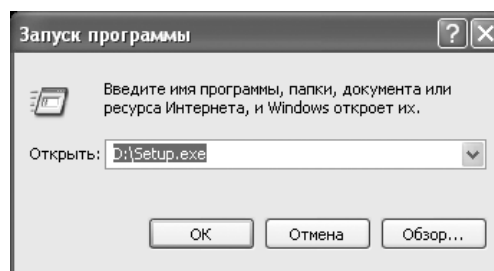

Fig. 72
- type command line **D:\Setup.exe** in opened window, (here **D:** - symbol for storage drive in that particular PC) (Fig. 72).